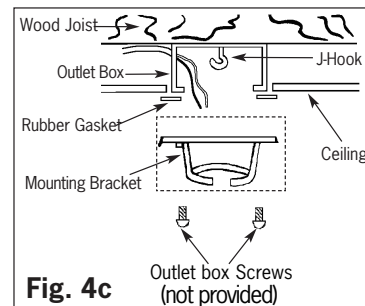

Fig. 4c
**For model Preston or Cove: Fig.4c ,4d and 4e**